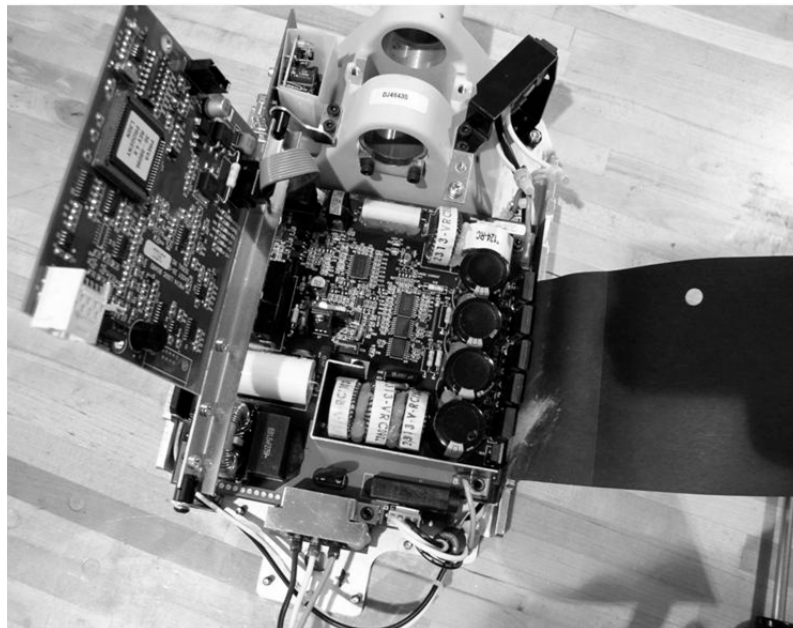

Figure 14: Replacing the Power Supply Board
19. Replace the Power Supply Board 30-08041 onto the chassis as shown on Figure 14.